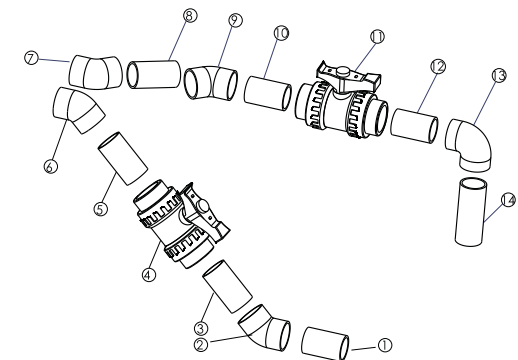

Figure 14
- 2) For each model of pump pipe please refer to figure 14, 15, 16.